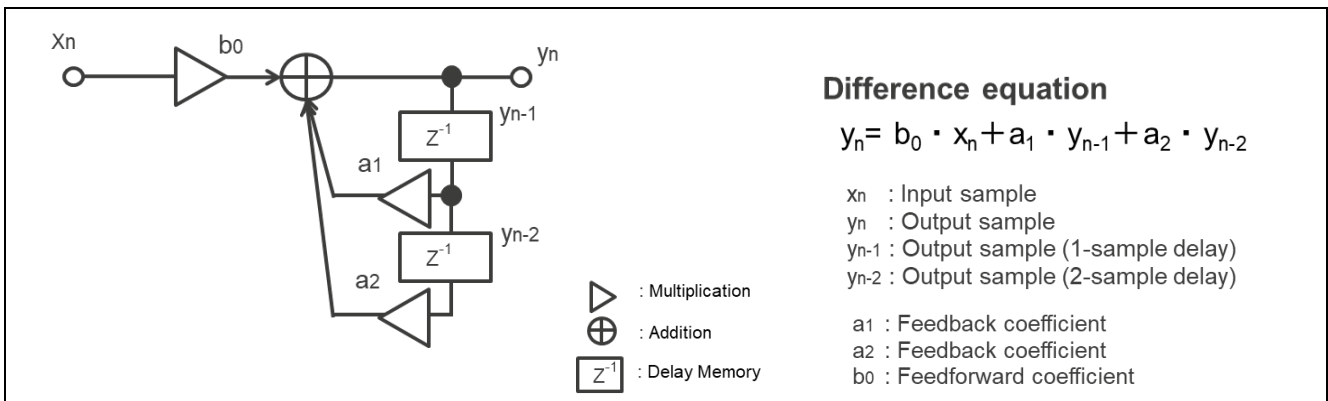

Figure 3.9 Signal Flow of Oscillator Processing to Which the IIR Filter Is Applied
- The oscillators are generated by the signal processing to which the secondary IIR filter shown in Figure 3.9 is applied.